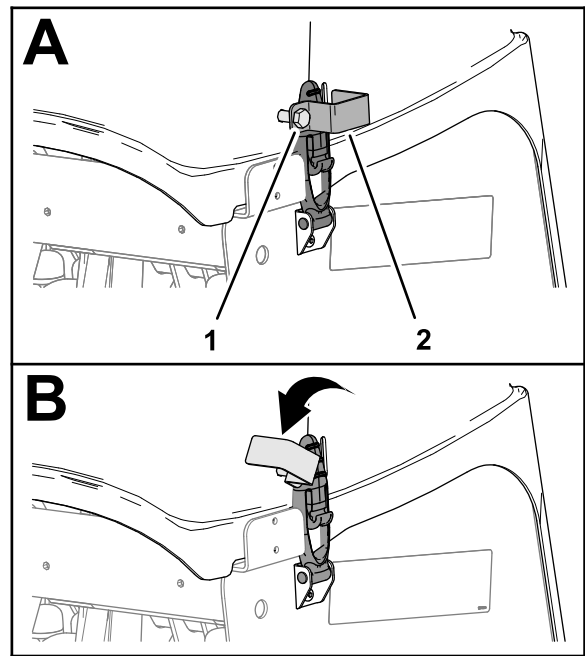

Figure 138
1. If you machine has CE latch locks, loosen the lock-plate bolt until the lock plate clears the slot in the side of the coring-head cover (Figure 138).